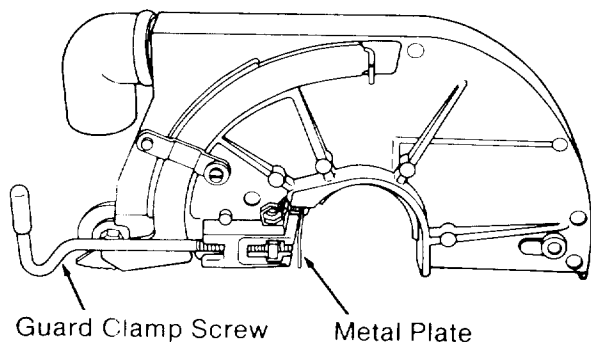

Fig. 77
1. Loosen the *guard clamp screw* until it no longer touches the *metal plate*. (Figure 77)